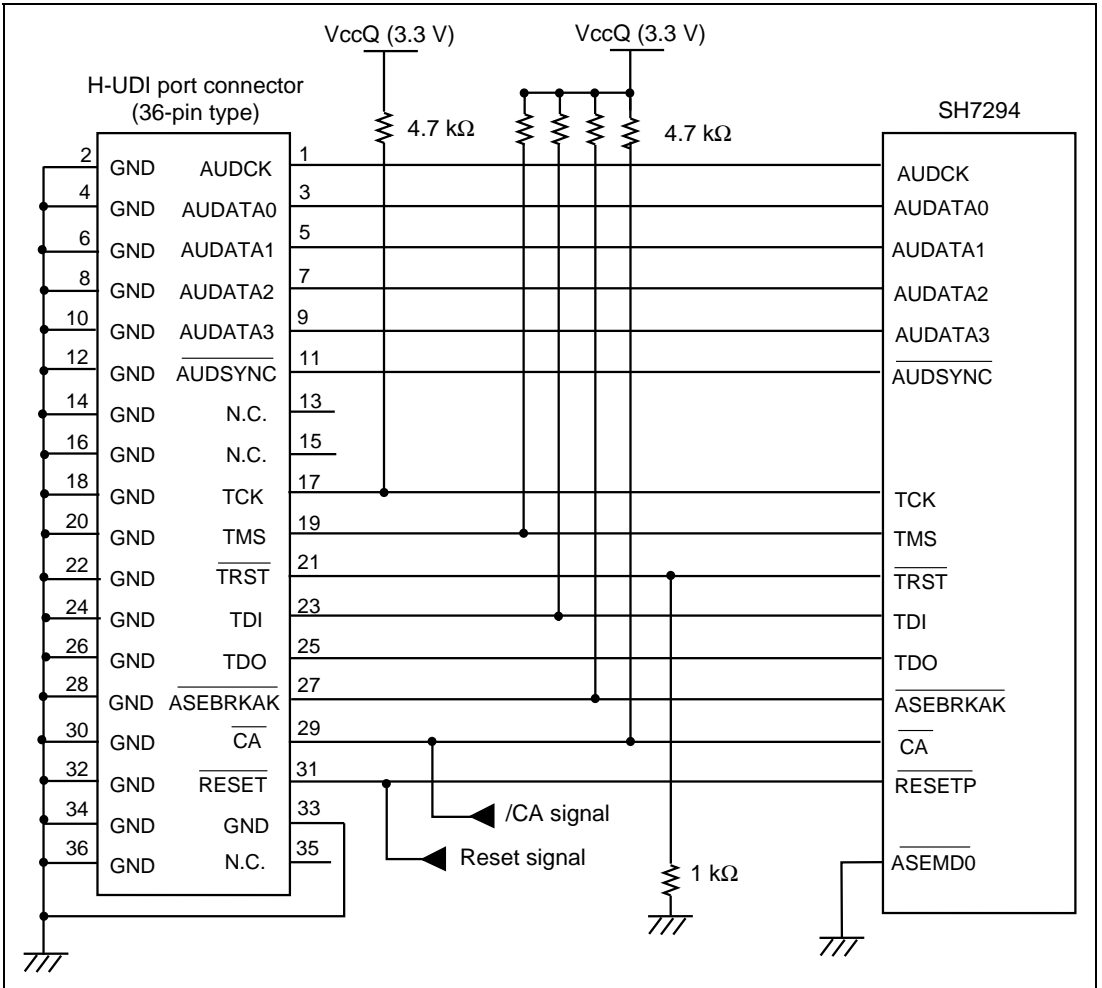

Figure 1.4 Recommended Circuit for Connection between the H-UDI Port Connector and MPU (36-Pin Type)
Figure 1.4 shows a recommended circuit for connection between the H-UDI port connector (36 pins) and the MPU.
- (1) When the emulator is used: /ASEMD0 = low (ASE mode)
- (2) When the emulator is not used: /ASEMD0 = high (normal mode)
8. The resistance values shown in figure 1.4 are recommended.